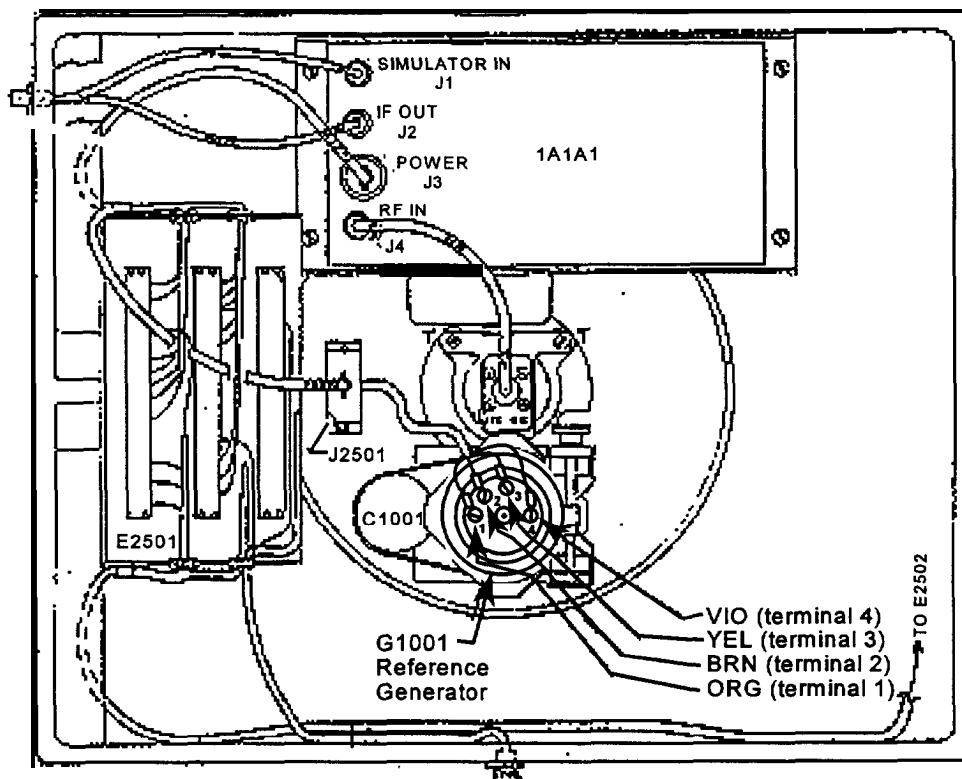

Figure 2
Make pen and ink changes to the Instruction Manual Automatic Radiotheodolite ART-2, 2R, Maintenance Vol. 2, Figure 7-10, Elevation Assembly 1A2, Wiring Diagram, pages 7-39/40. Pen and ink changes should reflect the proper reference generator wiring diagram as outlined in Figure 2 of this modification note.
2. Locate the pylon reference generator and verify proper reference generator wiring as shown in Figure 2.
6. If any of the wiring schematics in Figures 2, 3 and 4 do not match the sites' ART-2 elevation housing configuration, rewire the elevation housing as specified in Figures 2, 3 and 4.
11. If the ART antenna locks onto the target antenna signal, wiring in the elevation housing is correctly configured. If difficulties are encountered, confirm the system wiring with drawings in Figures 2, 3, and 4.